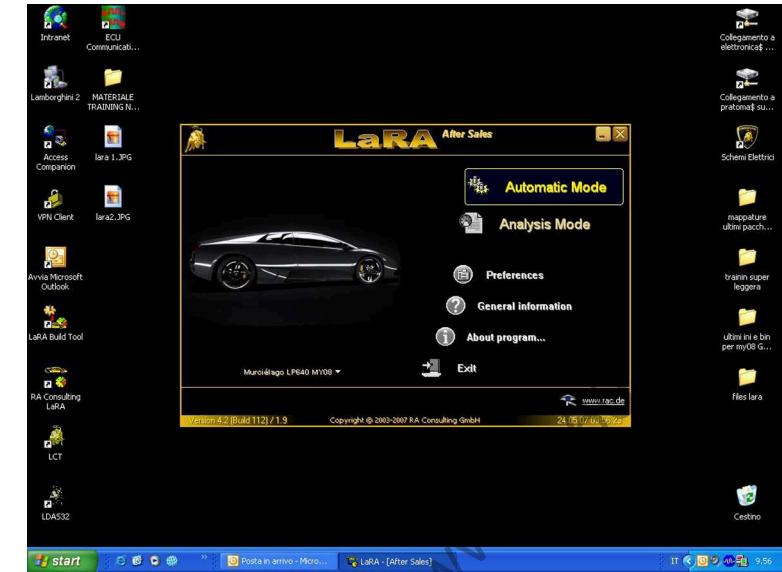

Fig.2
- The system starts automatically, showing the last screen opened on the car's display (Fig.2).